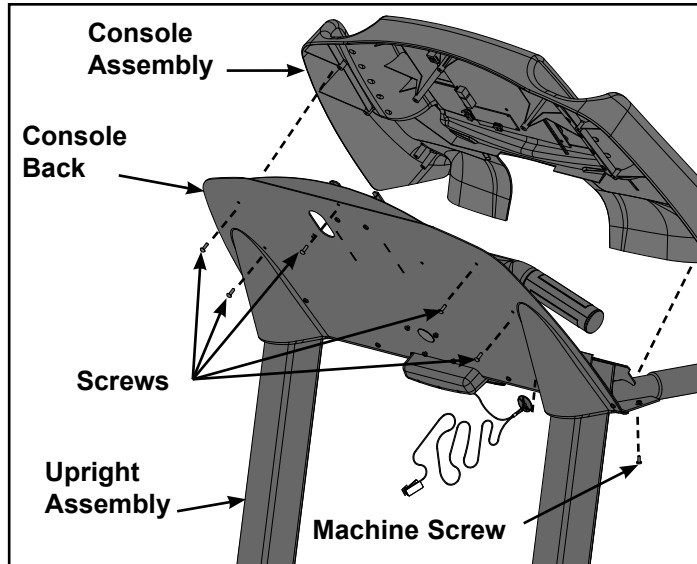

Figure 10
- G. Using a Phillips head screwdriver secure the two screws (#14) securing the console back cover (#5) to the console front (#4). See Figure 10.
- A. Using a Phillips screwdriver, partially tighten each motor cover side (left and right) with four screws, 10-32 x .75" (#16). See Figure 10.